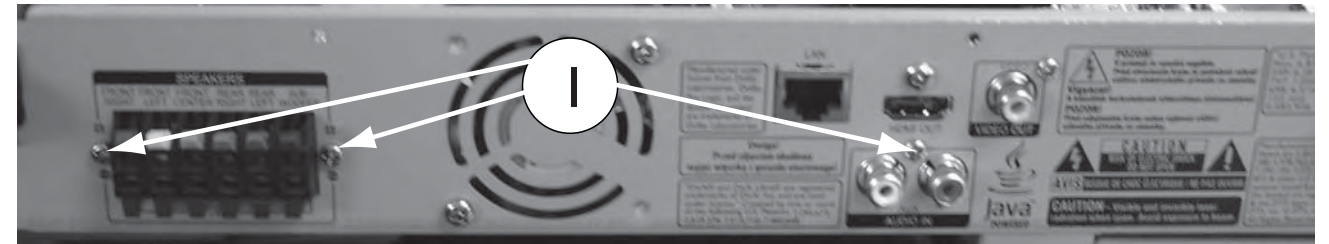

Figure 15
- 2) Loosen 3 screws “I” at the back panel as shown in figure 15.